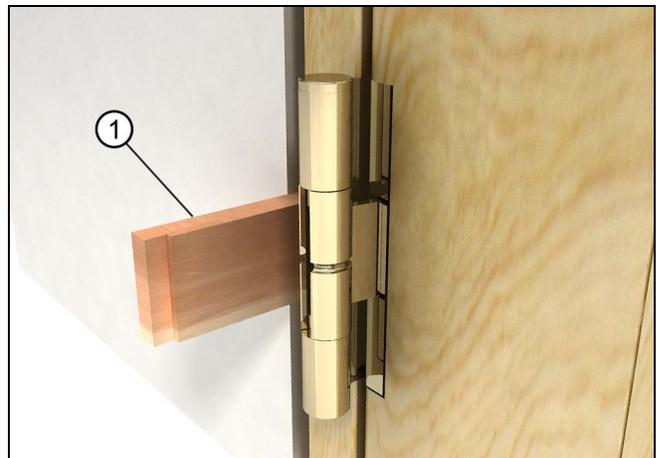

Figure 15
**7. For Swinging Doors:** Place a shim at each hinge and on each side of jamb and head jamb strike plates. Place additional shims a maximum of 12" (305) apart. Be careful not to bow the jambs. See Figure 15.